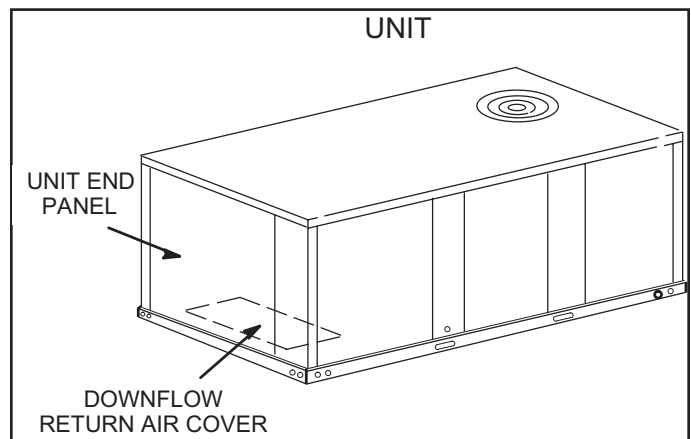

FIGURE 8
- 1 - Remove unit end panel. See FIGURE 8.
- 2 - Install the downflow return air cover in horizontal airflow applications. Secure with #10 sheet metal screws provided in kit. See FIGURE 8.